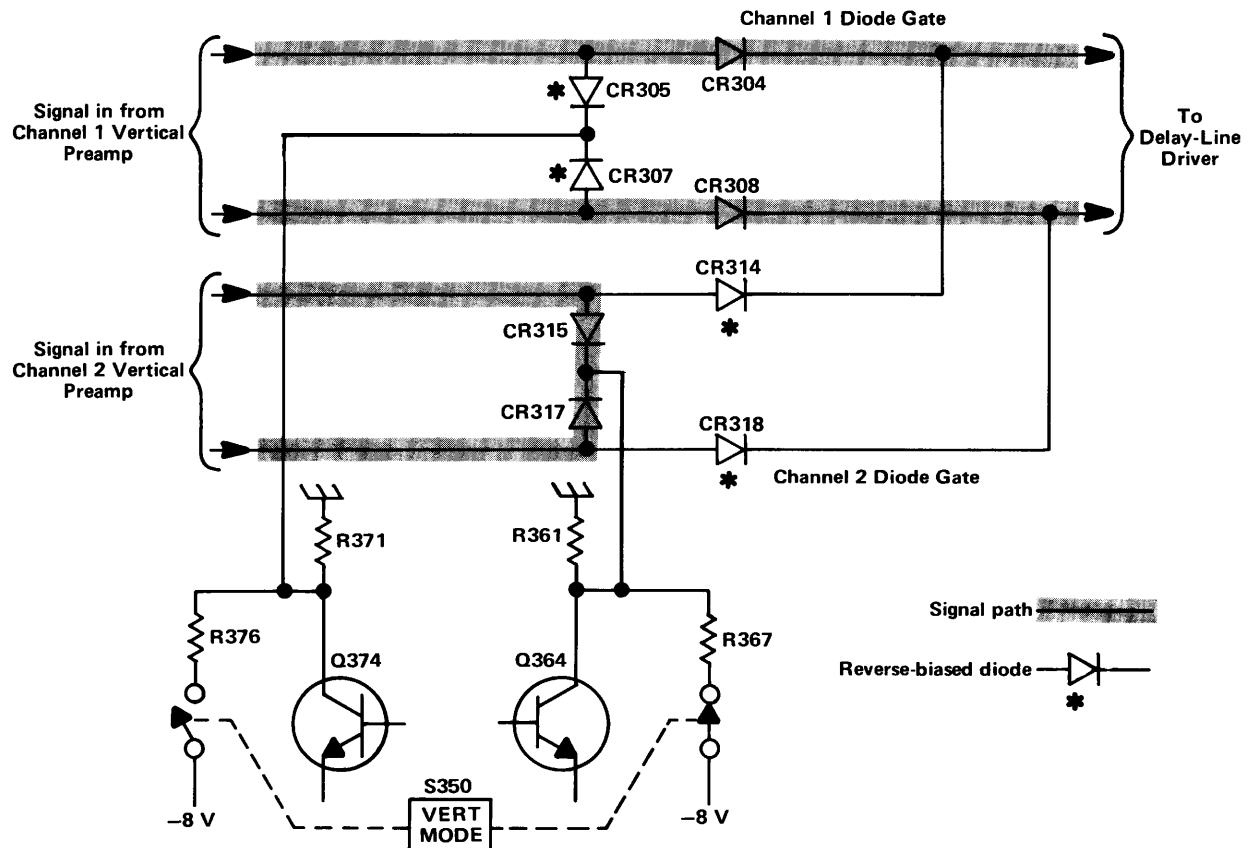

Fig. 3-5. Effect of Diode Gates on signal path (simplified Vertical Switching diagram). Conditions shown for CH 1 position of VERT MODE switch.
**Channel 1 Only Display.** When the CH 1 pushbutton is pressed,  $-8$  volts is applied to the junction of CR315-CR317 in the Channel 2 Diode Gate through R367 (see simplified diagram in Fig. 3-5). This forward biases CR315 and CR317 and reverse biases CR314 and CR318. CR314 and CR318 block the Channel 2 signal so it cannot pass to the Delay Line Driver stage. At the same time in the Channel 1 Diode Gate, CR305 and CR307 are connected to  $+5$  volts through R371. CR305 and CR307 are held reverse-biased while CR304 and CR308 are forward biased. Therefore, the Channel 1 signal passes to the Delay Line Driver stage.